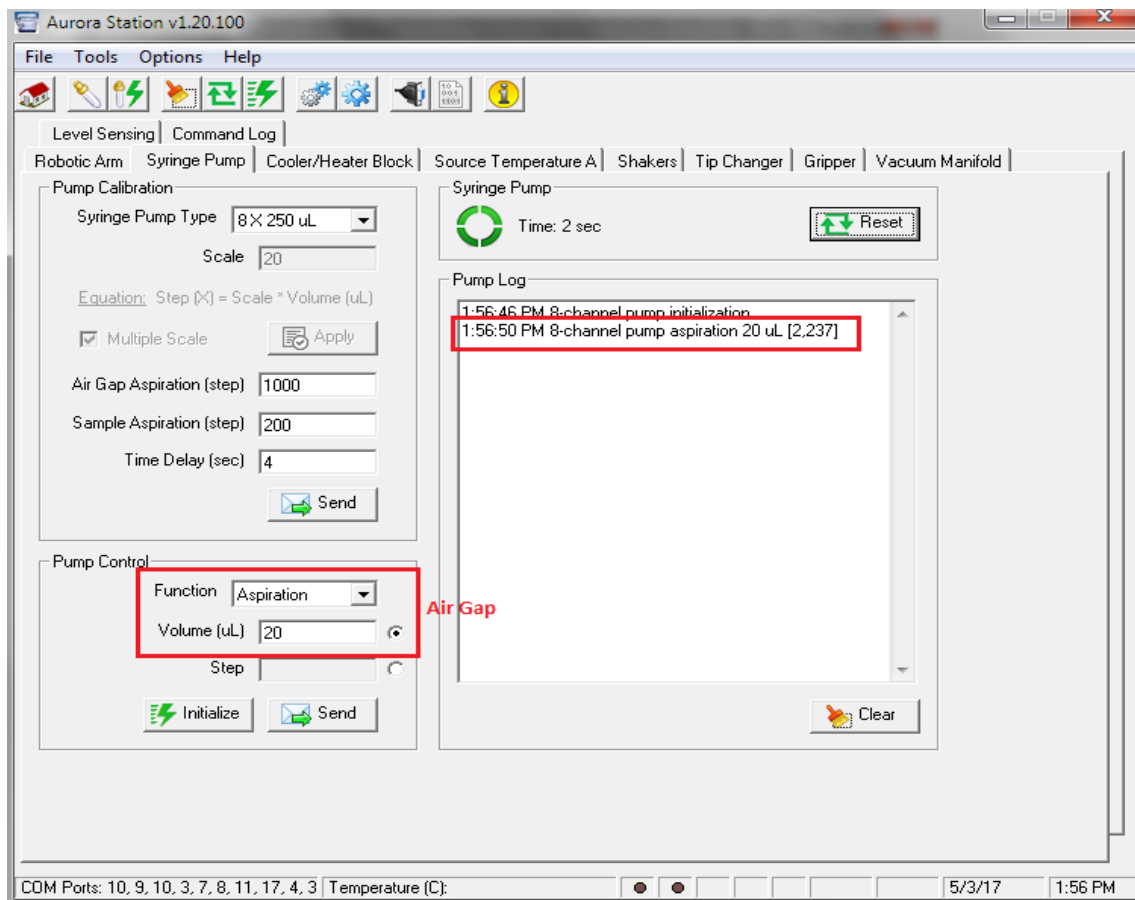

Figure 9-55 Syringe Pump –Aspirate 20µL Air-gap
6. Add a 20µL air-gap in the volume column and hit send (there will be volume & steps displayed in the log table on the left. (*Figure 9-55 Syringe Pump –Aspirate 20µL Air-gap*))